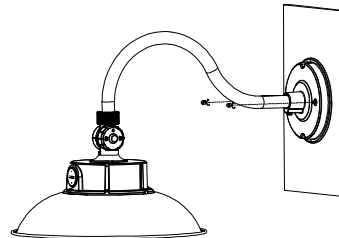

Fig 4
4. Hide the connected wires in the junction box, align the lamp body with the screws, and tighten the nuts. (Fig 4)